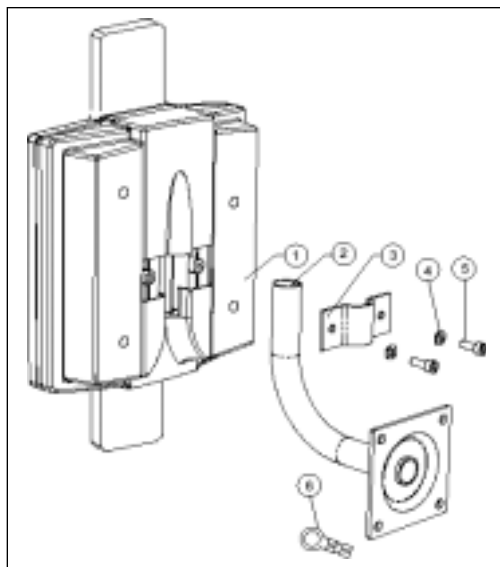

Figure 5-2 Outdoor Access Point Components
| Outdoor transceiver | 1 | See item 1 in Figure 5-2 |
| Mounting pole | 1 | See item 2 in Figure 5-2 |
| Pole clamp | 1 | See item 3 in Figure 5-2 |
| M6 washer | 2 | See item 4 in Figure 5-2 |
| M3 x M10 machine thread screws | 2 | See item 5 in Figure 5-2 |
| Grounding lug | 2 | See item 6 in Figure 5-2 |